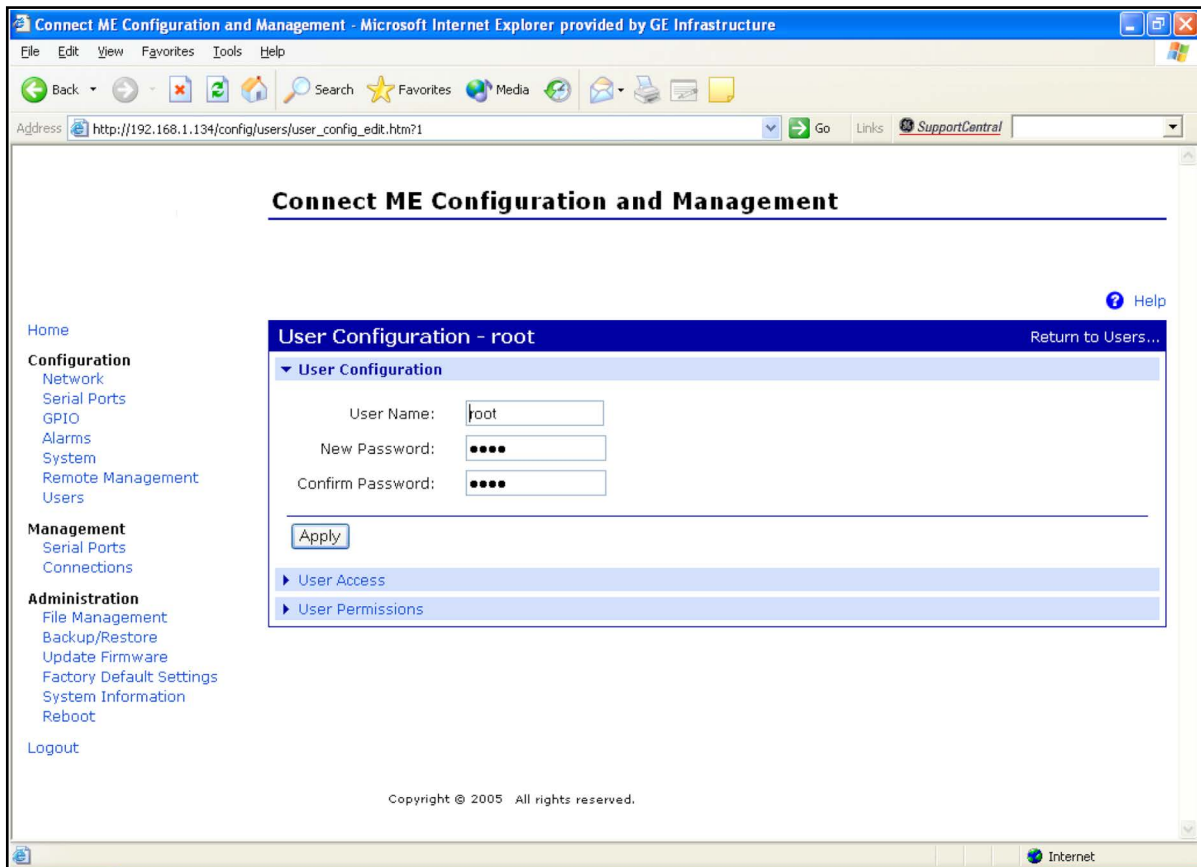

Figure 20: Changing the User Name and/or Password
5. Click on **New...** *Figure 20 on page 49* appears.